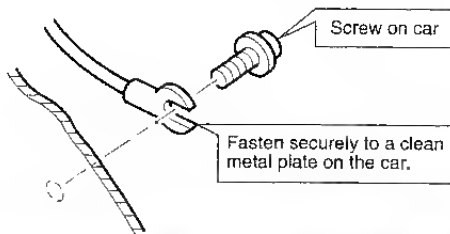

Figure 12
5. When connecting the ground lead, fasten the ground lead (black) securely to a clean metal plate on the car. (Figure 12)